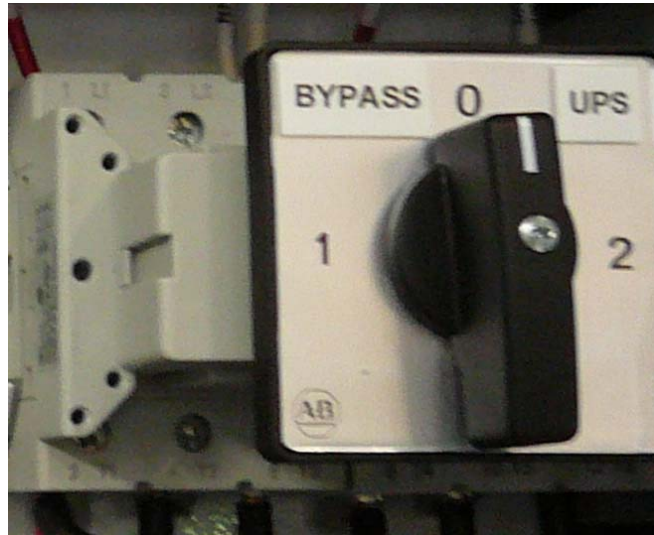

Figure 2
12.3.4) There is a UPS bypass selector that will allow the UPS to be bypassed while still providing 120 VAC to the connected UPS loads. This will allow the UPS to be removed from the system for maintenance or repair. The selector switch is located in the MCP and has three positions (See figure 2 below)